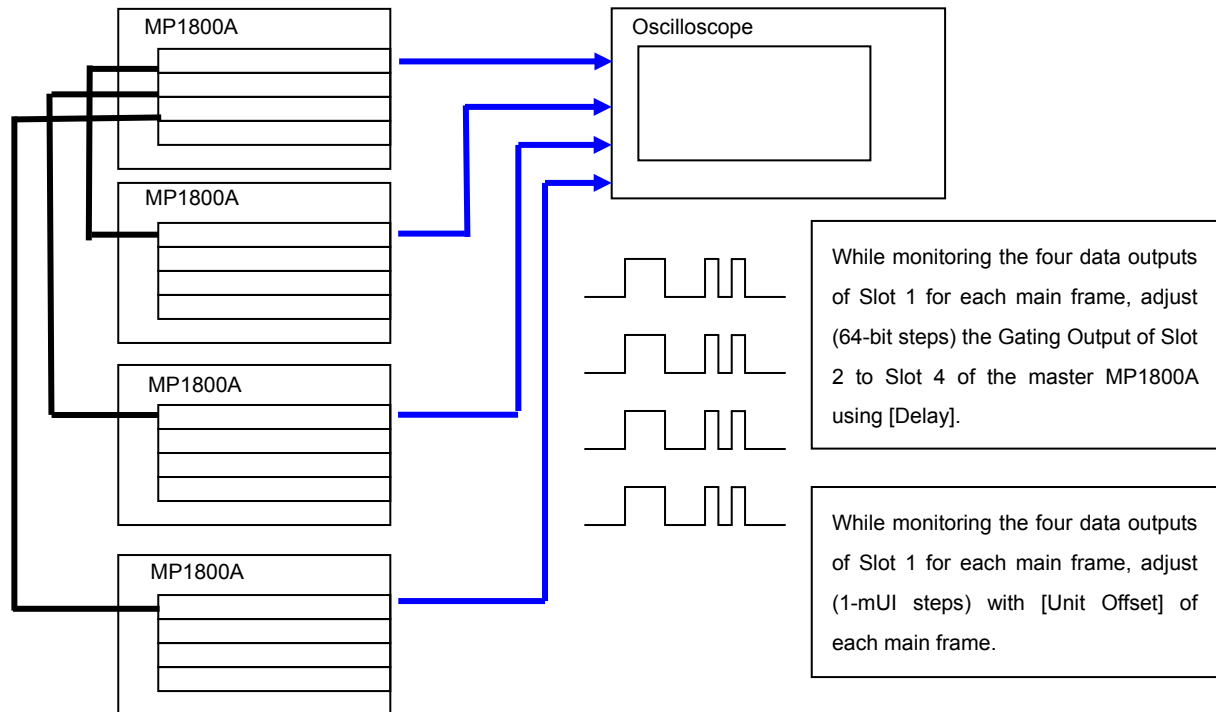
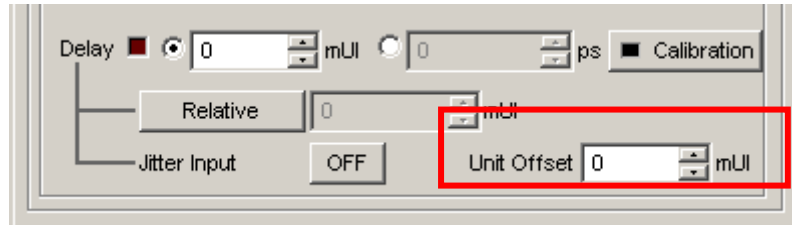

Figure E.1.2-3 Adjusting Output Pattern between Main Units
Figure E.1.2-5 Unit Offset Setting Screen
6. While monitoring the data of Slot 1 of each main frame with an oscilloscope, use the [Unit Offset] setting of the [Output] tab for any of Slot 1 to Slot 4 of each main frame to minimize the bit drift (Figure E.1.2-3 and Figure E.1.2-5).